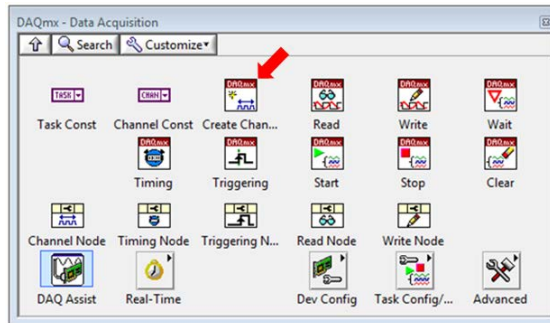
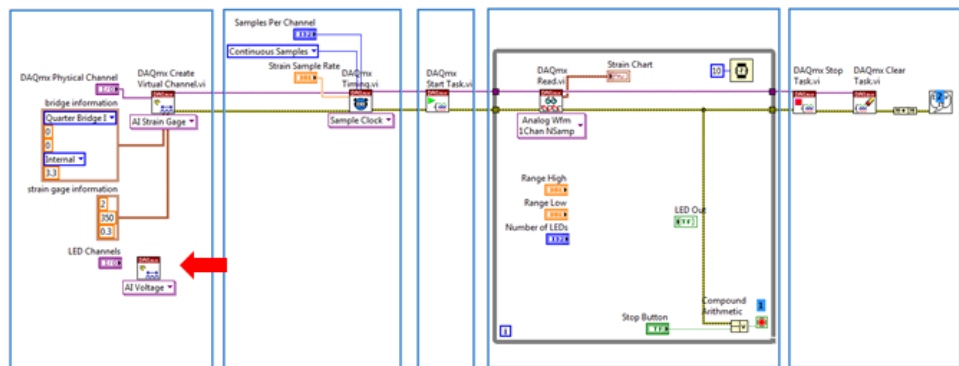

Figure 25. Pinning a palette enables you to click elsewhere in your code with the palette still visible.
Figure 26. The digital output code will run parallel to the strain task.
10. To start, drag the **NI-DAQmx Create Channel** (red arrow in Figure 25) and place it in the position shown in Figure 26.